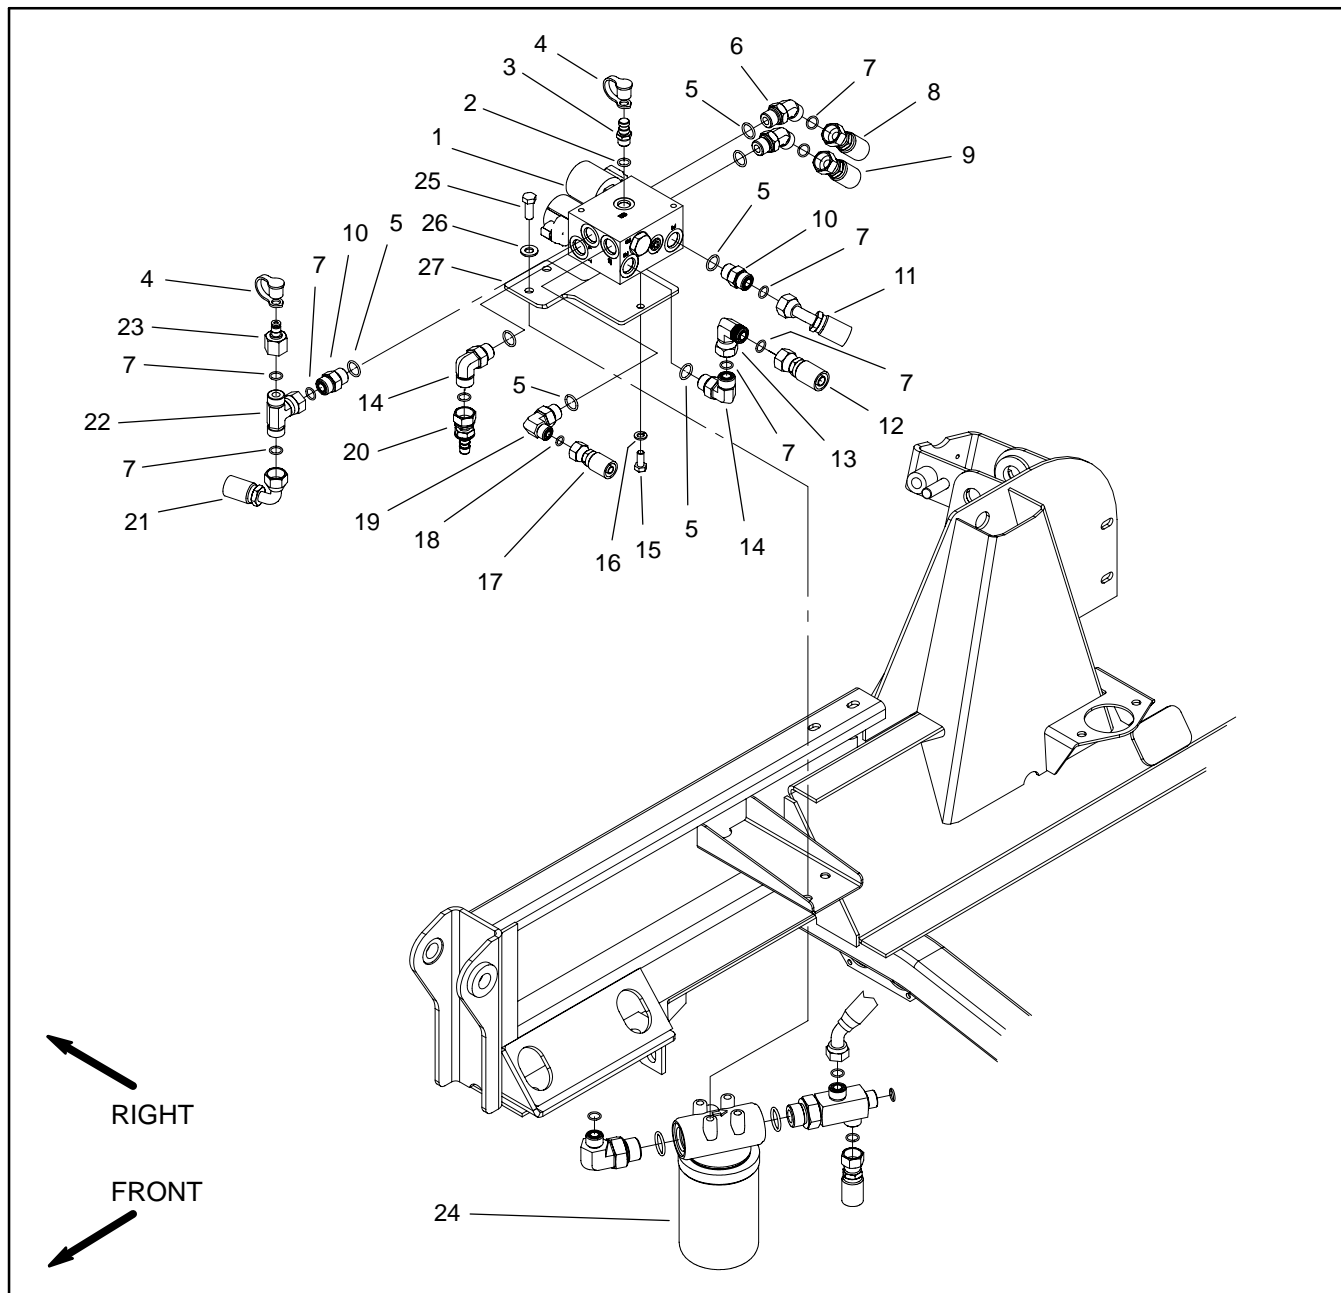

Figure 95
### Removal (Fig. 95)
7. Remove fan drive manifold from the frame using Figure 95 as a guide.
### Installation (Fig. 95)
2. Install fan drive manifold to the frame using Figure 95 as a guide.